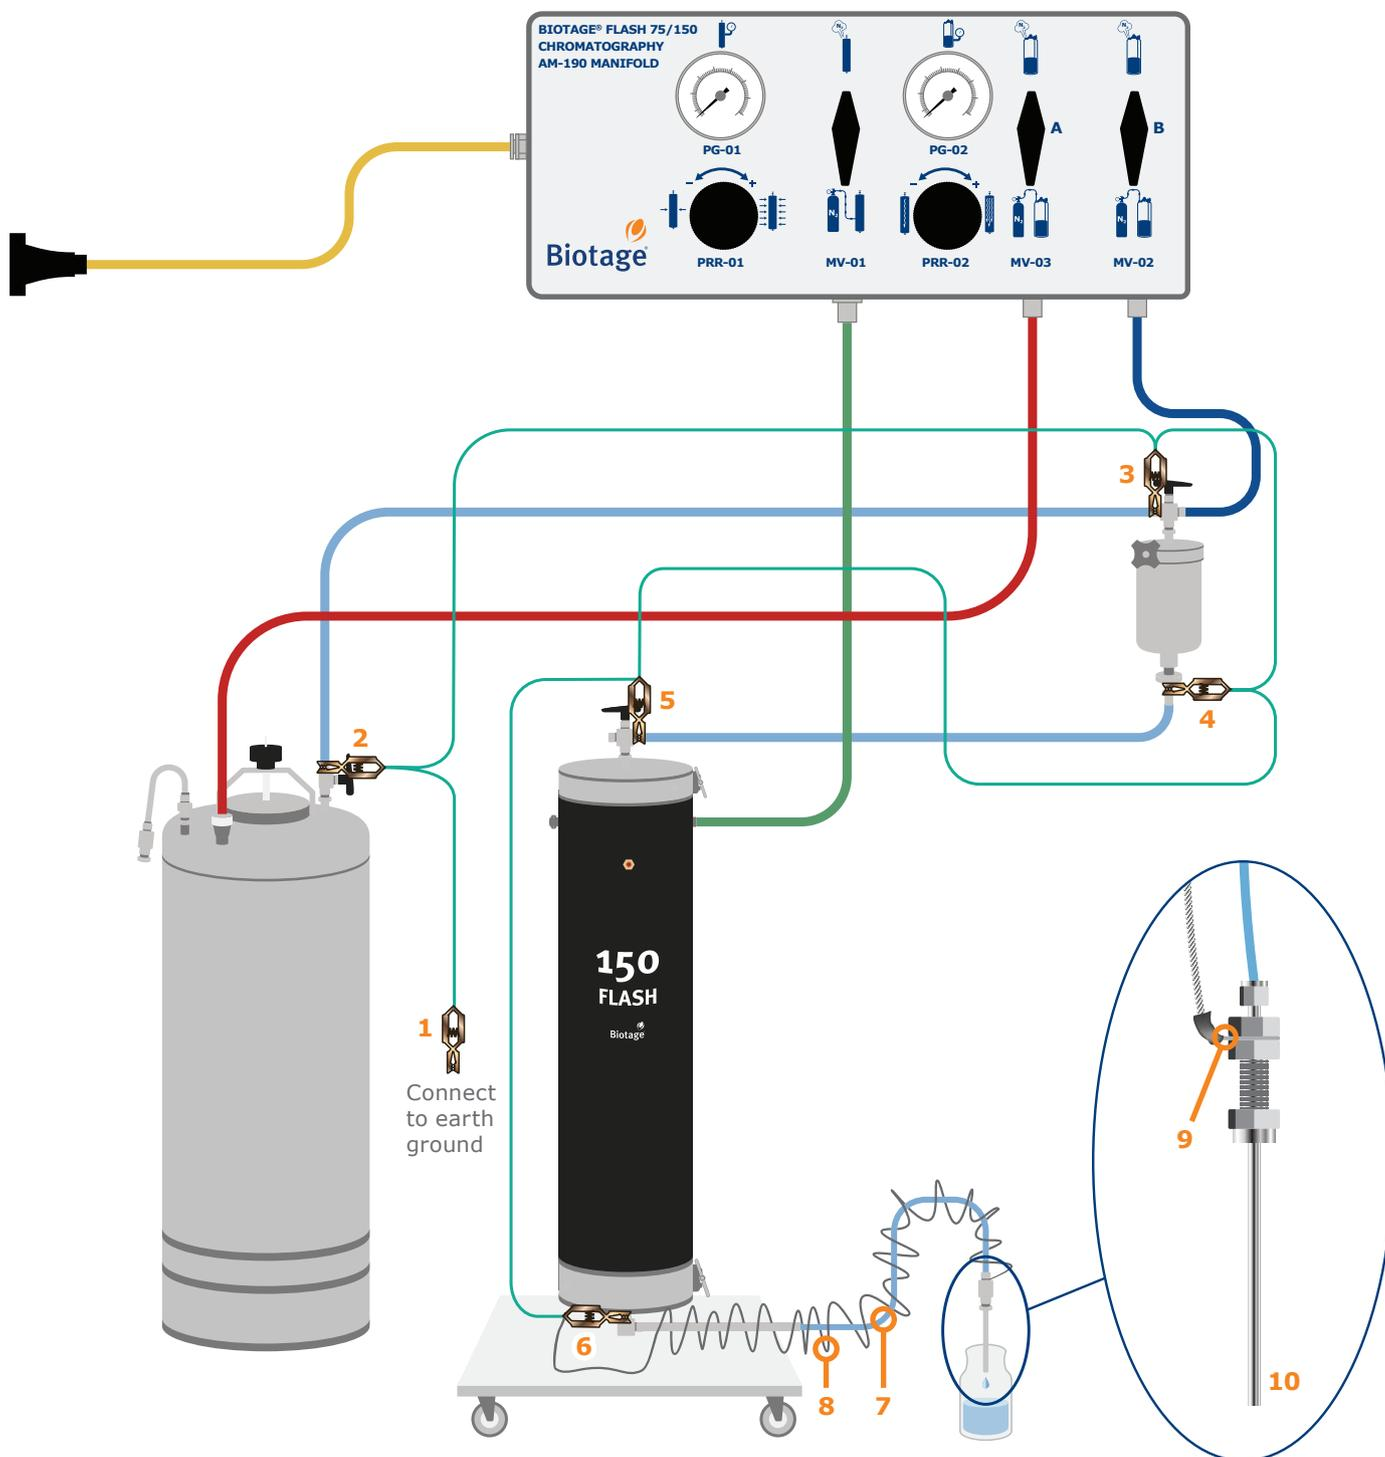

Figure 16. System grounding schematic. Note that all the alligator clips must be connected to metal fittings/objects, not to the plastic tubing.
1. Connect the first alligator clip (item 1 in Figure 16) to a grounded point, such as a metal cold water pipe.
2. Connect the next alligator clip (item 2 in Figure 16) to the on/off valve on the top of the solvent reservoir, at the point where the metal tubing connector is located.
3. Connect the next alligator clip (item 3 in Figure 16) to the three-way valve on the top of the sample injection module, at the point where the metal tubing connector is located.
4. Connect the next alligator clip (item 4 in Figure 16) to the bottom of the sample injection module, at the point where the metal tubing connector is located.
5. Connect the next alligator clip (item 5 in Figure 16) to the three-way valve on the top of the radial compression module, at the point where the metal tubing connector is located.
6. Connect the last alligator clip (item 6 in Figure 16) to the metal fitting on the bottom of the radial compression module.
7. Connect the fraction collection assembly tube (item 7 in Figure 16) to the fitting on the bottom of the radial compression module as described in “Fitting with Nut and Ferrules” on page 10.
8. Wrap the uninsulated wire (item 8 in Figure 16) that connects to the last alligator clip (item 6 in Figure 16) around the fraction collection tube (item 7 in Figure 16) and then securely tighten the terminal ring on the uninsulated wire (item 9 in Figure 16) between the two hex nuts on the fraction collection nozzle (item 10 in Figure 16).